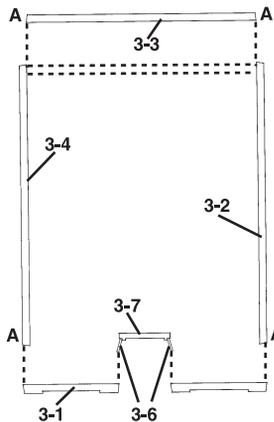

Fig. 2
Wall edges are angled (draft angles) to make removal from mold easier. Draft angles need to be sanded square to allow for proper assembly and a flush fit with adjoining Walls. To square edges, thumbtack a piece of 120-grit sandpaper to a board and draw Wall back and forth evenly on sandpaper until edge is square and level (**Fig. 1**). Edges to be sanded square do not have brick detail and are marked "A" (**Fig. 2**).
- Glue Side Panels to Entry Door (**Fig. 2 and 4**).